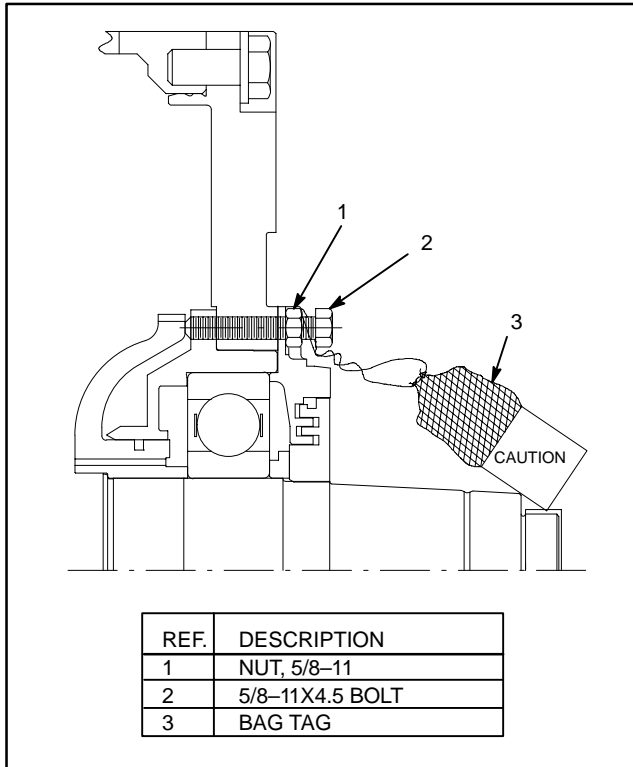

FIG. 7. ROTOR LOCKING SEQUENCE. E-43081
2. Replace with locking bolt(2) and nut(1) (Fig. 7).
3. Torque locking bolt(1) to 30ft.lbs., then tighten nut(2).
- Place bolts and washers removed in bag(3) and attach as shown (Fig. 7).